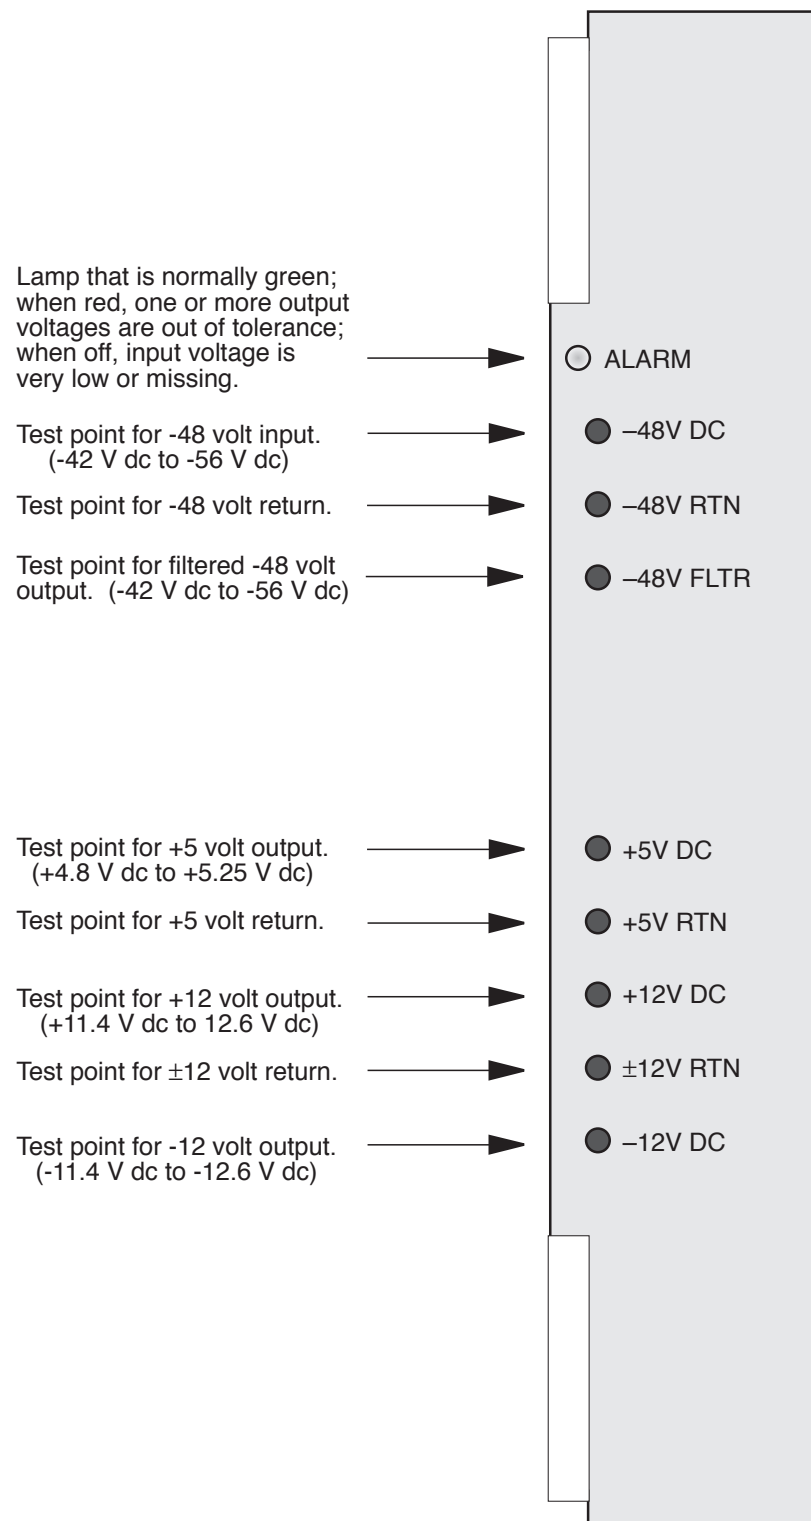

Figure 2. LPS Card Faceplate Indicators
4.01 Figure 2 is a drawing of the LPS card faceplate indicators.